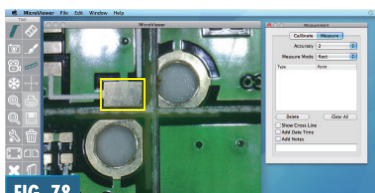

FIG. 78
5. Release the mouse button and the rectangle will appear. The number is the area of the triangle (length x width = area) (Fig. 78).